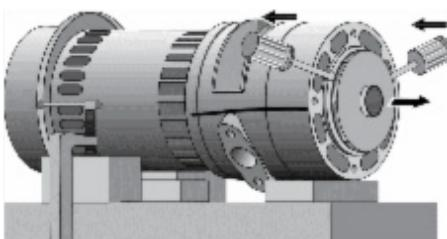

Figure 19
9. The impellers are keyed to the shaft and do not unscrew. Insert two screw drivers on opposite sides under the exposed impeller and pry the impeller off (Figure 19) to remove it.